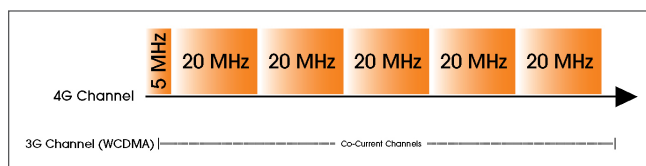

Figure 6: 3G vs. 4G Channel Bandwidth
4G, otherwise known as Long Term Evolution (LTE), increases channel bandwidth to 20 MHz per channel and can include 5 contiguous channels to 100 MHz total bandwidth. Figure 6. The RF test bench remains much the same, with the exception that the VSG must increase ARB bandwidth to greater than 100 MHz.
5G is a paradigm in mobile communications. More than a simple evolution, this generation introduces new protocols and is called New Radio (NR). Significant increases in bandwidth and latency are keystones for this new standard. Overcrowding in the current 3GPP spectrum designated as Frequency Range 1 (FR1) and bandwidth requirements has pushed the upper-frequency range (FR2) to 24.25 – 52.600 GHz, as shown in Figure 6. FR1 measurement systems will overlap 4G system capability. However, the move to FR2 with a bandwidth up to 400 MHz will require significant investment in new measurement systems capable of those high frequencies. Test equipment manufacturers are developing test equipment and methods to alleviate the considerable cost of a new test bench. These methods may include a box solution capable of making all the RF